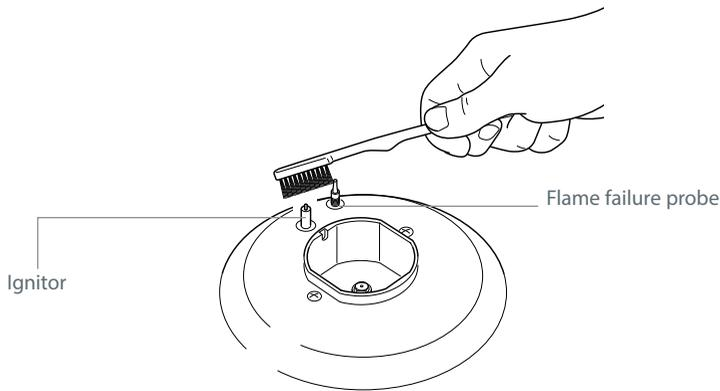

Fig.14 Cleaning the ignitor and probe
These models have a flame failure probe as well as the ignitor (see Fig 14).
- The ignitors are sparking. If the ignitors are not sparking, they may be dirty or wet. Clean them with a toothbrush and methylated spirits, as shown in Fig. 14.
- Both the ignitor and probe must be very carefully cleaned using a toothbrush and methylated spirits (Fig.14).